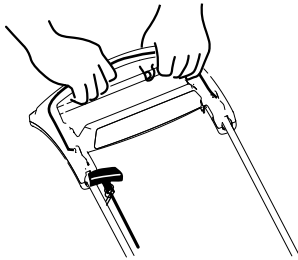

Figure 18
3. Hold the blade-control bar against the handle (Figure 18).